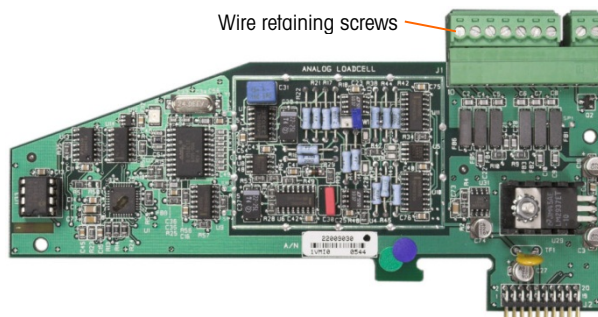
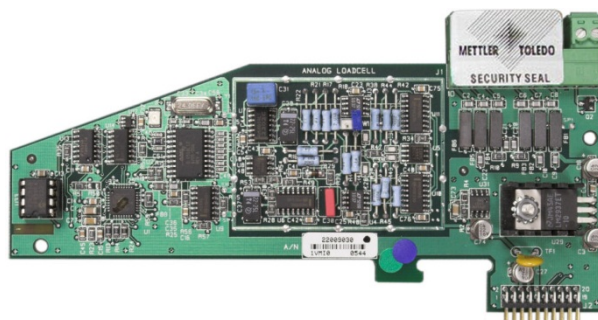

Figure 2-114: Unprotected Option Board Connection
Figure 2-115: Security Seal Installed
6. To protect the load cell interconnecting cable/s (attached to option boards), a security seal must be placed over each connector to ensure that it is not removed or disconnected. The seal also prevents access to the wire retaining screws indicated in Figure 2-114. Figure 2-115 shows a seal in place.